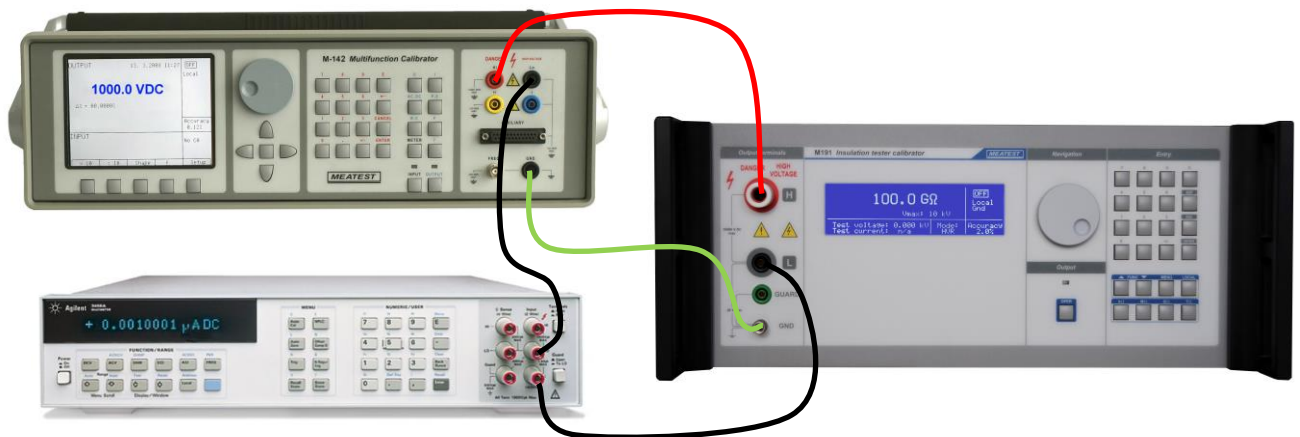

Fig 17 Volt-ampere method of high resistance calibration (VAM)
- g) Connect standard multifunction calibrator and standard microammeter to the M191 calibrator as shown in the fig 17.